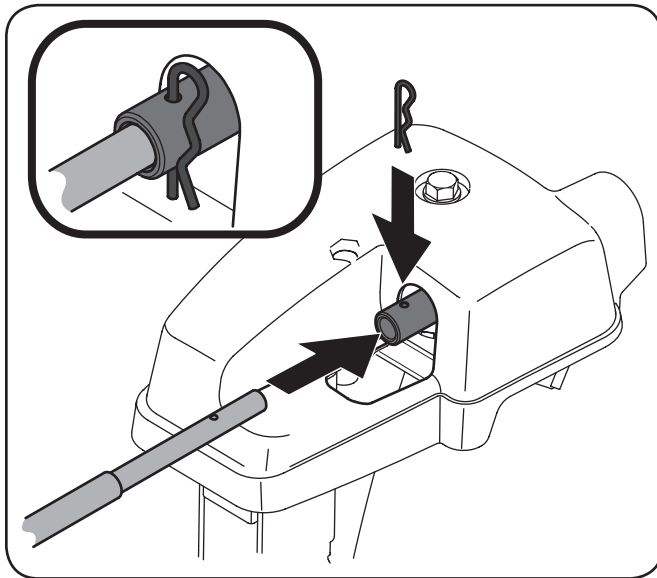

Figure 3-17
5. Insert flex shaft removed earlier from the lower handle into rear of the chute directional control head. Secure the flex shaft to the chute control head with the hairpin clip removed earlier. See Figure 3-17 .